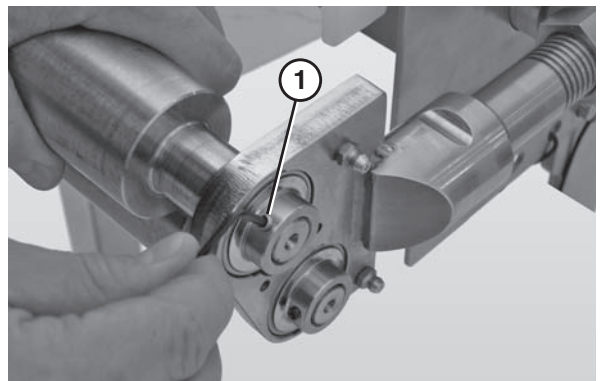

Figure 84
5. Use a 4 mm hex wrench to loosen all the bearing fasteners (Figure 84, item 1).